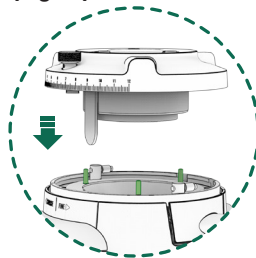

Fig. 15
12.3.10. When reassembling the grind regulator, face the silicone curtain in front and the three holes with three pins in the grind chamber (Fig. 15).